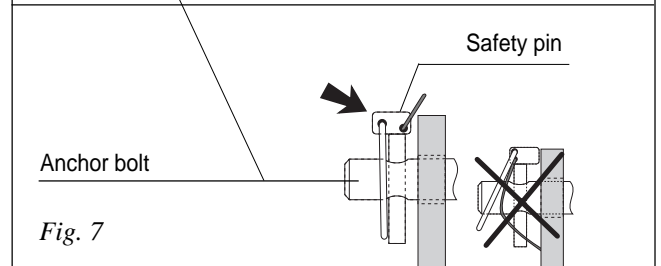

Fig. 7
- Check the **correct position of the safety pin** according to Fig. 7!